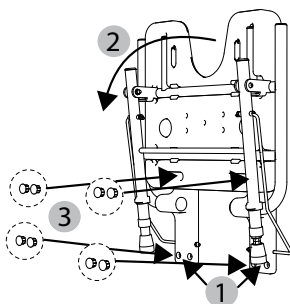

Abb. 2
3. Position the wall panel in accordance with the drill holes (Fig. 2, 1). Only tighten the screws so that the wall panels can still move. Align the wall panels using the spirit level and tighten the screws.
4. Unfold the shower seat (Fig. 2, 2).
6. Then insert the cover caps (8 pcs.) (Fig. 2, 3) into the opening of the wall fixing.